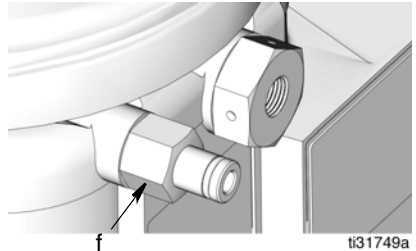

FIG. 4
6. Remove vent valve alignment bolt (f) installed in pump (FIG. 4).